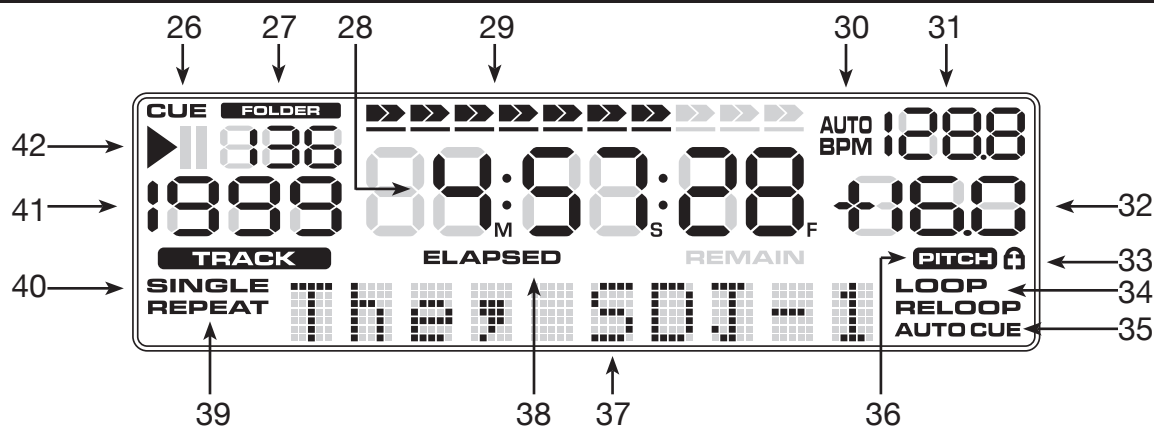

Figure 3
D. LCD DISPLAY PANEL (FIGURE 3)
32. PITCH METER - This meter will display the pitch percentage applied by the *PITCH SLIDER* (5).
35. AUTO CUE INDICATOR - This will indicate if the Auto Cue is on or off. Press and hold the *SGL/CTN* (2) for 2 secs. to toggle the Auto Cue function on and off.